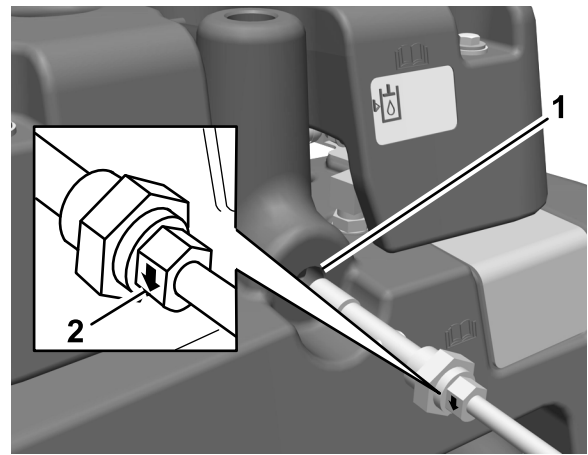

Figure 7
27. Remove the plug on the main hydraulic tank and install the hydraulic oil level sensor (Figure 7).
Note: Ensure that the indicator arrow on each side of the nut that secures the hydraulic oil level sensor points downward (Figure 7).